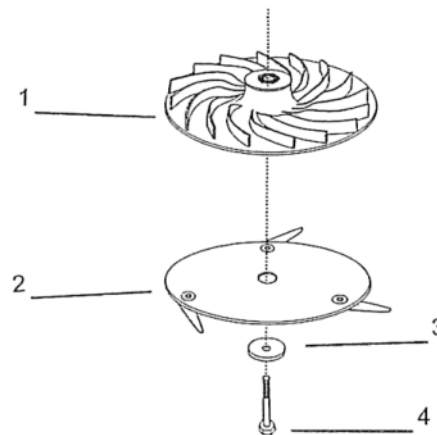

Figure 14
4. **To obtain a higher cut** remove the height adjustment spacer (s) from the impeller hub. Remount the cutter disc to obtain the highest cut - do not use any spacers. Install the flat washer and the Impeller retaining bolt. Tighten the bolt securely. (Fig 14)
- Remove the height adjustment spacer (s) from the impeller hub. (Fig 14)